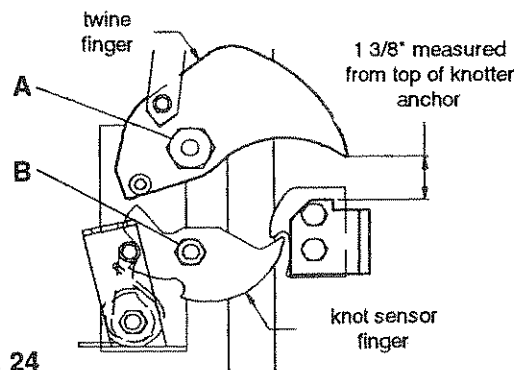

Fig. 24
NOTE: This adjustment is made by loosening the twine finger anchor bolt, (A), and knot sensor finger pivot bolt, (B), and sliding the assembly toward the front or back in the slotted holes in the bale chamber top, see Fig. 24. Retighten bolts after adjustment.
3. Adjust the twine finger drive rods so the tips of the twine fingers are set to the dimension shown in Fig. 24.